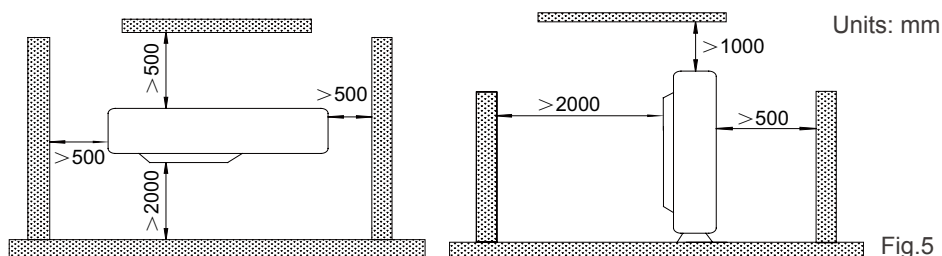

Fig.5
5. The installation space of the unit should be as required in Fig.5.